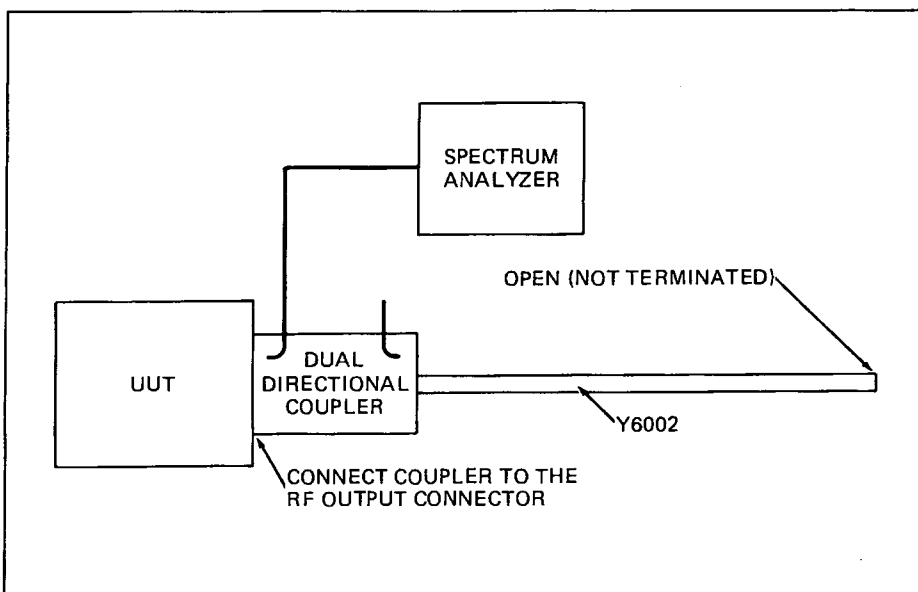

Figure 5-1. SWR Check
1. Connect the UUT and test equipment as shown in Figure 5-1.